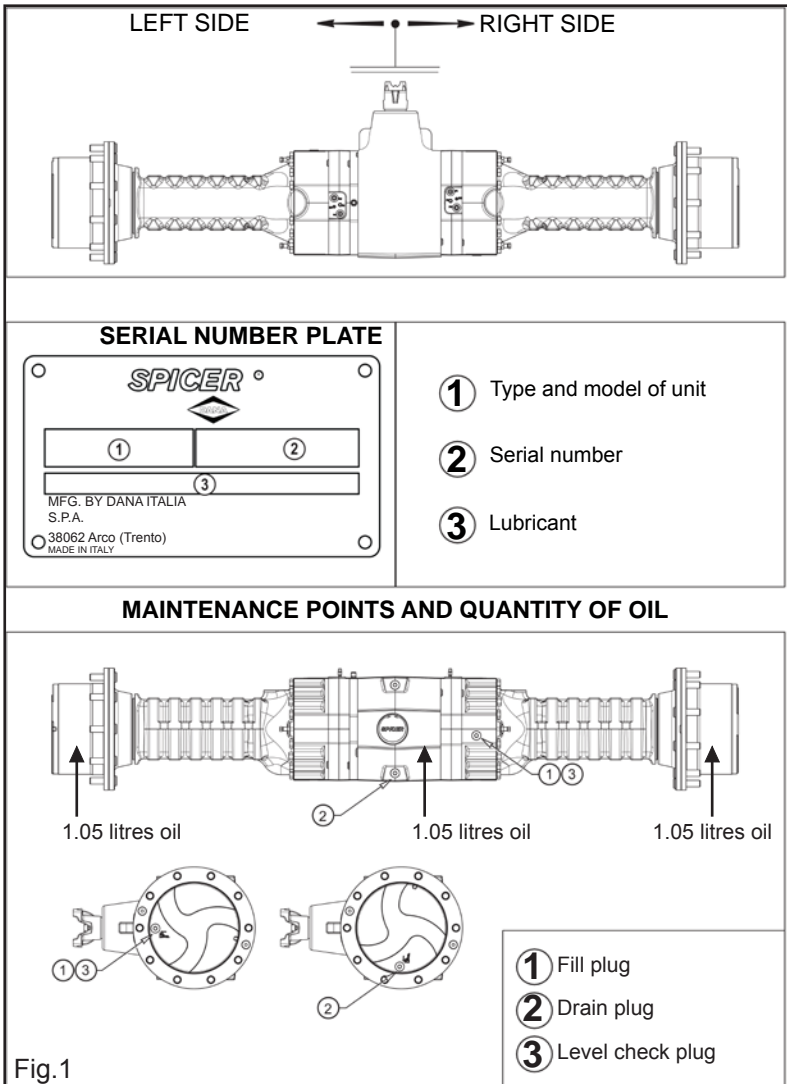

Fig.1
Loosen the nuts (30) of the screws (31) fig.1 for the manual mechanical release of the braking units and move the nuts back by about 8 mm.